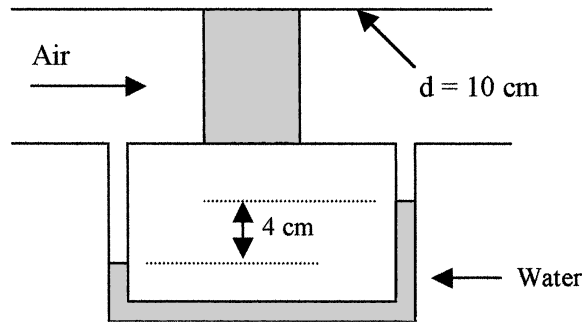

Fig. P6.101
6.101 In Fig. P6.101 a thick filter is being tested for losses. The flow rate in the pipe is $7 \text{ m}^3/\text{min}$, and the upstream pressure is 120 kPa . The fluid is air at 20°C . Using the water-manometer reading, estimate the loss coefficient K of the filter.